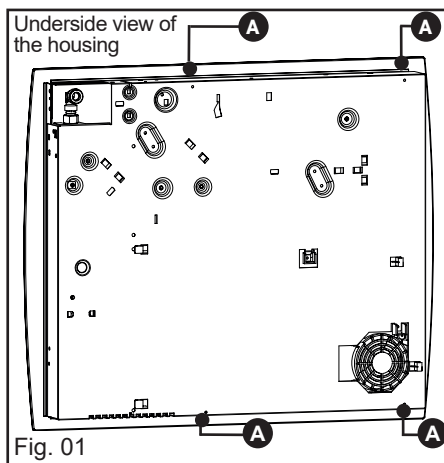

Fig. 01
- If you wish, you can immobilise the hob using the four mounting brackets delivered with a screw (Fig. 02) to attach them to the four corners of the housing. **You must use the holes provided for this purpose, according to the diagram above (Fig. 01).**
– Above an oven (Fig. 01)